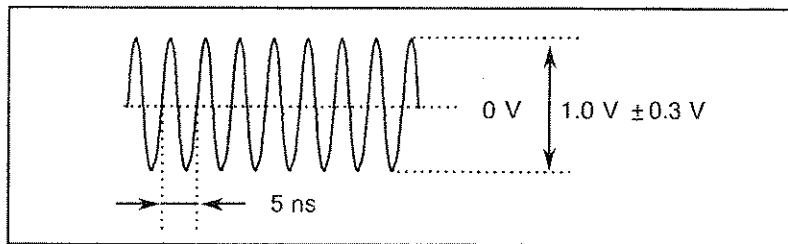

Figure 8-1 CLOCK Output Waveform (f = 200 MHz)
- (5) Normal when the waveform is a sine wave as shown in Figure 8-1.